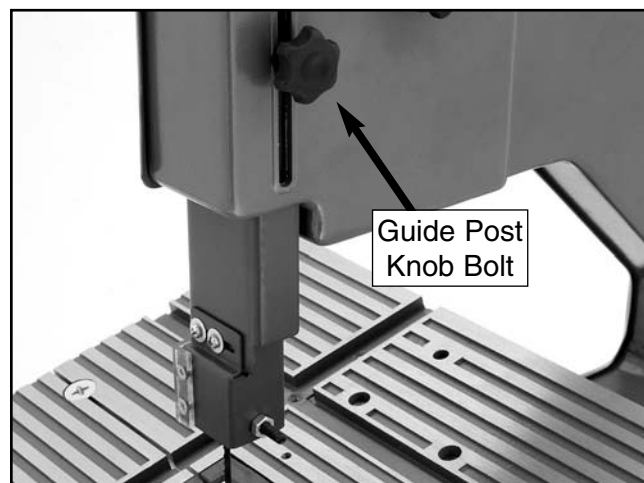

Figure 28. Release the guide post knob bolt before adjusting the guide post/upper blade guide assembly.
2. Loosen the guide post knob bolt shown in Figure 28.